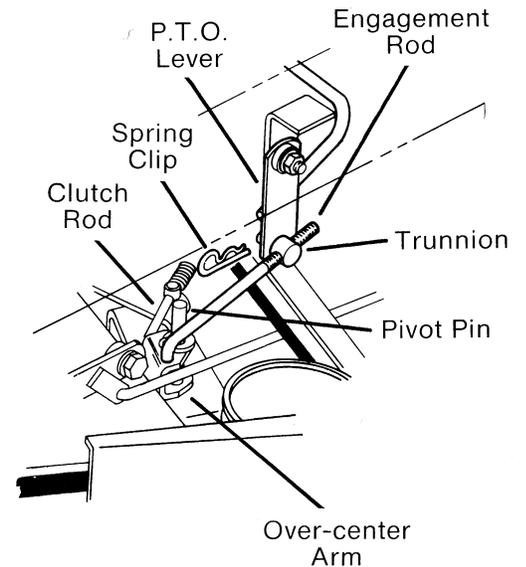

FIG. 7
O. Turn trunnion on engagement rod (Fig. 7) until trunnion fits into hole at bottom end of P.T.O. lever. Secure trunnion in this position with a spring clip.
NOTE: Large end of trunnion should be positioned on the left side of the P.T.O. lever, as shown in (Fig. 7).
P. Move P.T.O. lever to the "ON" position. The clutch rod, attached to over-center arm, should touch the pivot pin. (Fig. 7)
- D. Remove spring clip holding trunnion to bottom end of P.T.O. lever (Fig. 7), then detach trunnion from P.T.O. lever.